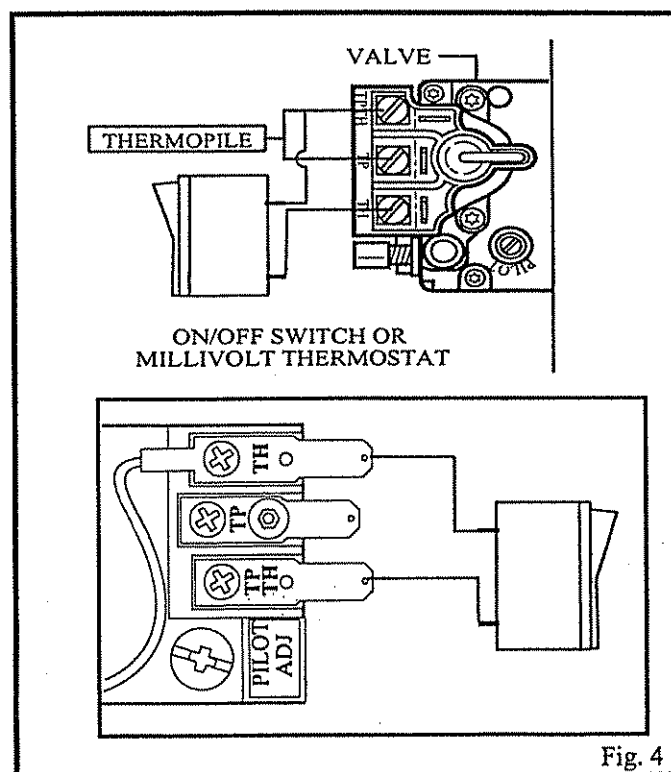
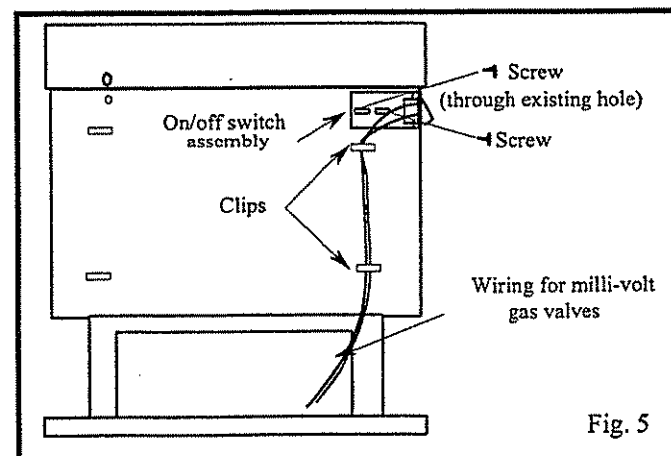

Fig. 4
Fig. 5
2. Position switch assembly onto the back of the fireplace, then fasten two screws as shown in Fig. 5.
3. Attach wiring under the clips on the rear casing (Fig. 5) and install wiring through the rear opening of the fireplace before connecting to the valve as shown in Fig. 4.